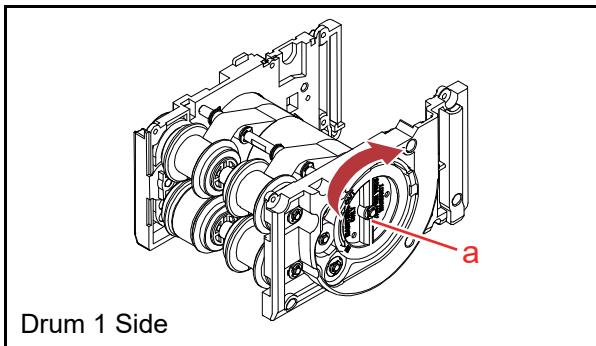

**Figure 4-106** Rubber Pulley and Dive Roller Removal (Drum 1 Side) 2
2. Remove the three (3) E-rings (Figure 4-106 **a1** through **a3**) and the single (1) Parallel Pin (Figure 4-106 **b**).
3. Remove the two (2) Rubber Pulleys (Figure 4-106 **c1** & **c2**) and the single (1) Drive Roller (Figure 4-106 **d**).